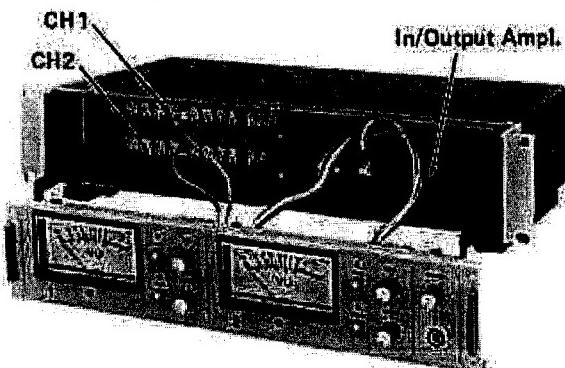

Fig. 9-7-8. Opening the Amplifier Module Front Panel.
- * To get at the trim pots for record/reproduce amplifier circuit adjustments, open the meter panel by removing the four set screws, two on each side of the panel. (Refer to Fig. 9-7-8.) With the panel removed, you will see the amplifier boards to which the trim pots are mounted as shown in Fig. 9-7-8. The boards are identical and are exclusively used for their respective channels.